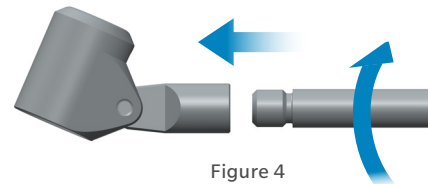

Figure 4
3. Assemble the cannulated ram guide (4) with the articulation (3) by screwing the ram guide inside threaded hole of articulation as shown on Figure 4.